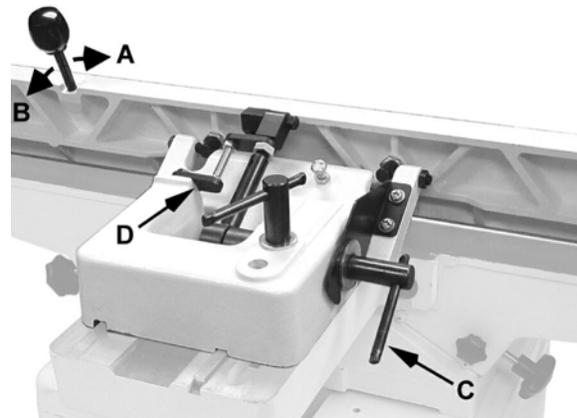

Figure 12
1. Loosen locking handle (C, Figure 12).
2. Move the lever forward (A, Figure 12) to the desired angle down to 45 degrees. Or you can place your reference piece on the table and against the fence, and adjust the fence until the angle of the fence matches the bevel of your gauge piece.
3. Tighten locking handle (C, Figure 12).
2. Loosen locking handle (C, Fig. 12).
3. Flip the 90° stop block (D, Fig. 12) out of the way.
4. Move the lever back (B, Fig. 12) to the desired angle up to 135 degrees. Or you can place
5. Tighten locking handle (C, Fig 12).
**Important:** When the tilted operation is finished and the fence is returned to 90°, do not forget to flip the 90° stop block (D, Fig. 12) back to its original position.